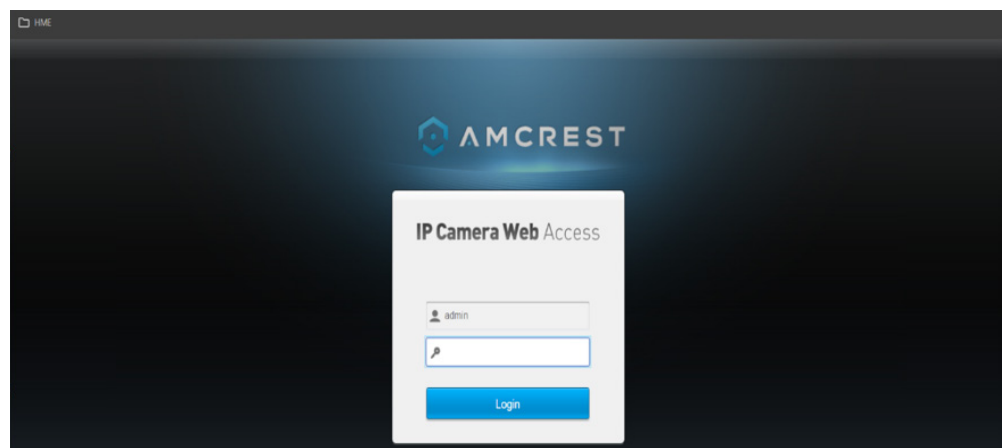

Fig. 2.2
1. Log in to the Camera portal using these credentials: For Username and Password, enter the word “admin” into both fields. Then click/tap the Login button. See Fig. 2.2.